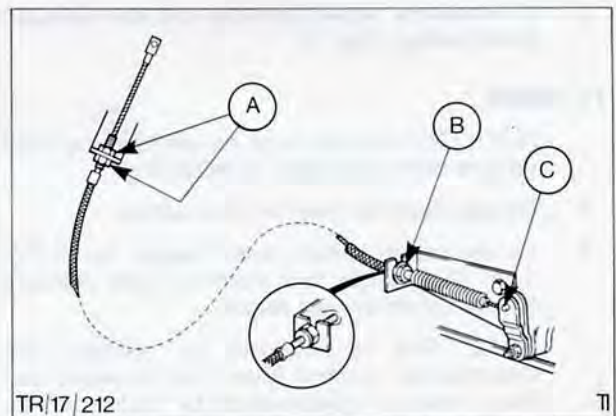

Fig. 15. Downshift cable assembly
3. Remove upper nut from adjustment thread on downshift cable, 'A' in Fig. 15, screw lower nut 'A' in Fig. 15, back to full length of thread. Pull cable downwards and unhook from slot in bracket.
5. From transmission bracket, loosen nuts on thread, 'B' in Fig. 15, unhook cable from slot in bracket.
6. Unhook cable from transmission downshift lever, 'C' in Fig. 15, and remove cable.